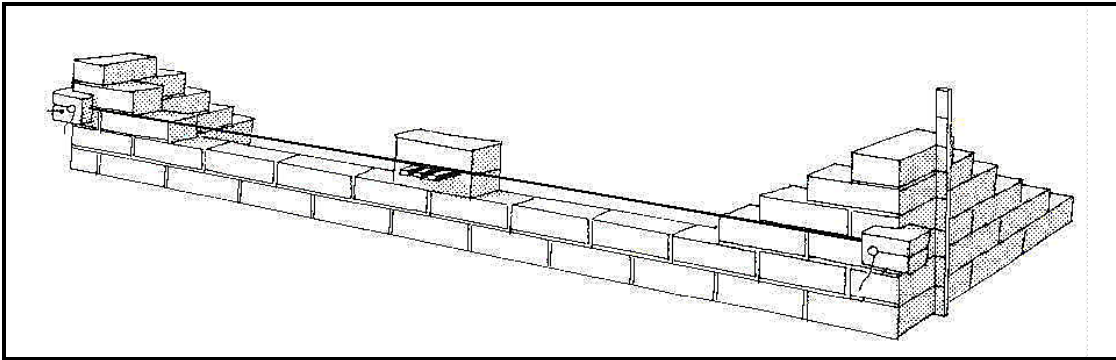

FIGURE 5.1
5.1 Answer the questions with regard to the wall in FIGURE 5.1.